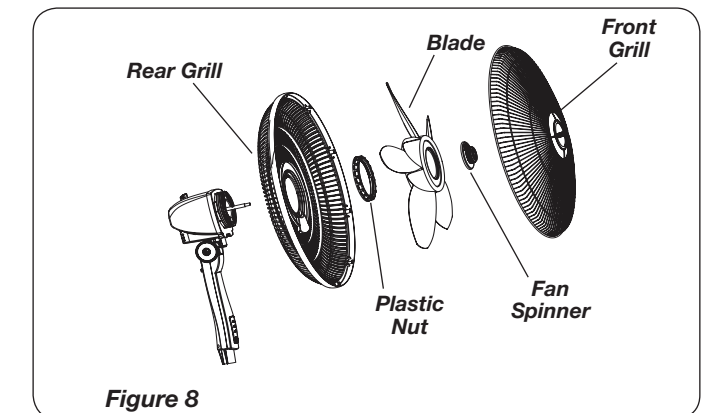
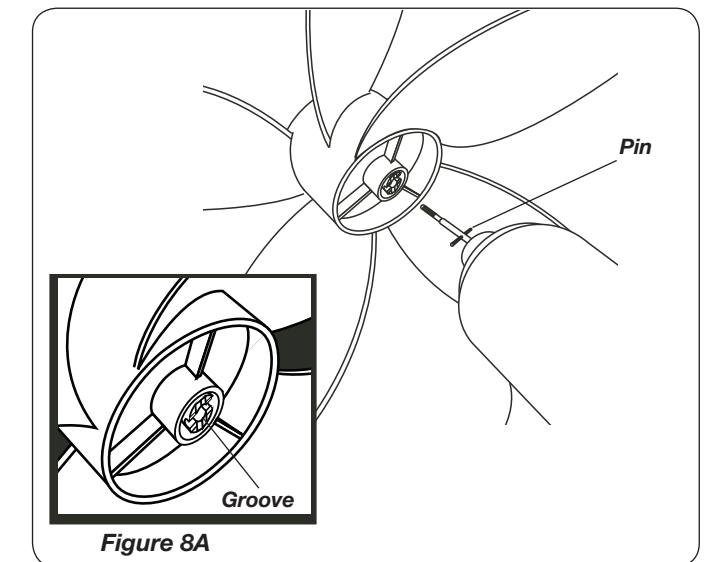

Figure 8
Figure 8A
3. Fully seat **Rear Grill** and secure with **Plastic Nut** turning Clockwise. Slide **Blade** onto **Motor Shaft**. (**Figure 8**) Align **Groove** on blade hub with **Pin** on motor shaft. (**Figure 8A**)